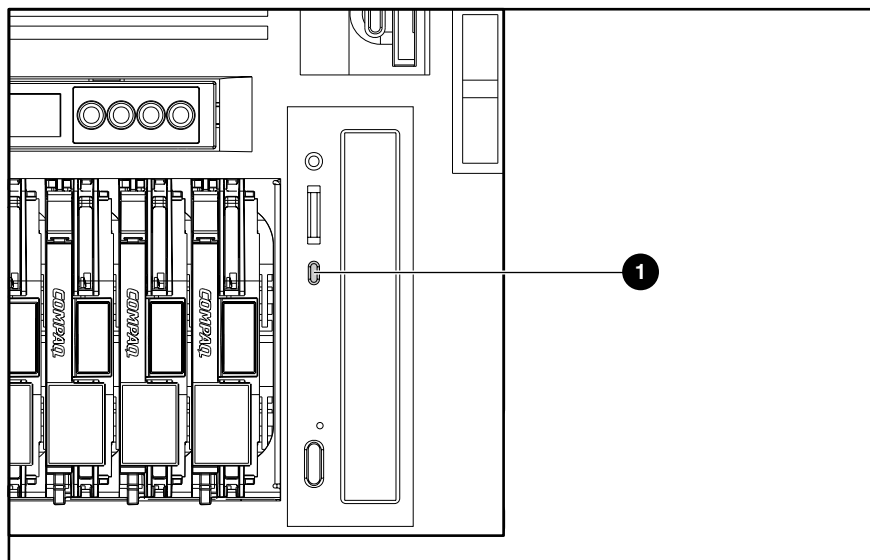

Figure 4-15. CD-ROM drive LED indicator
The CD-ROM drive LED indicator ❶ is located on the front of the CD-ROM drive near the volume wheel. The LED indicator illuminates green whenever the CD-ROM drive is in operation. Figure 4-15 shows the CD-ROM drive LED indicator for the ProLiant ML570 server.